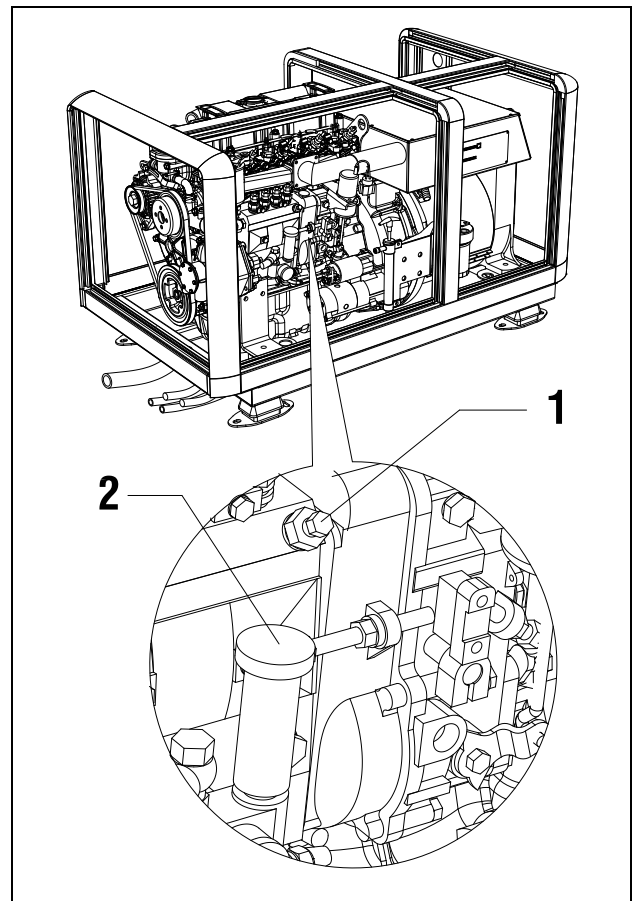

Fig. 16: Bleeding fuel lines 1 = Air bleeding screw
- 2 Loosen the air bleeding screw (1) 1,5 turns . See Fig 16.
- 3 Unlock lift pump plunger (2) (See fig 16) by turning it to the left.
- 5 Lock lift pump plunger (2) (See fig 16) by pushing it full down and turning it to the right.
- 6 Tighten the air bleeding screw (1)